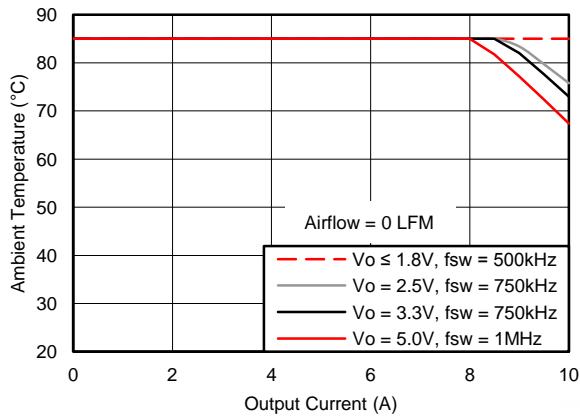
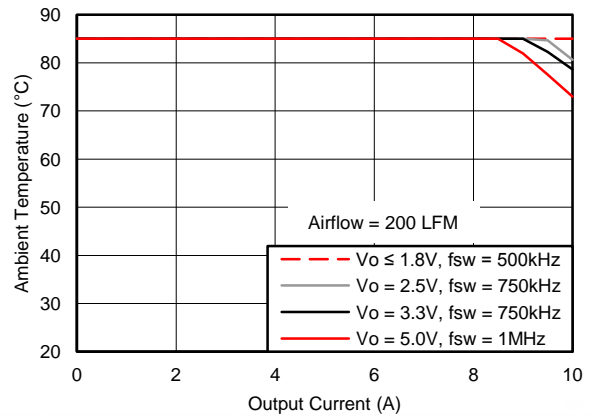

Figure 6. Safe Operating Area
Figure 7. Safe Operating Area
- (2) The temperature derating curves represent the conditions at which internal components are at or below the manufacturer's maximum operating temperatures. Derating limits apply to devices soldered directly to a 100 mm × 100 mm double-sided PCB with 2 oz. copper. Applies to Figure 6 and Figure 7.